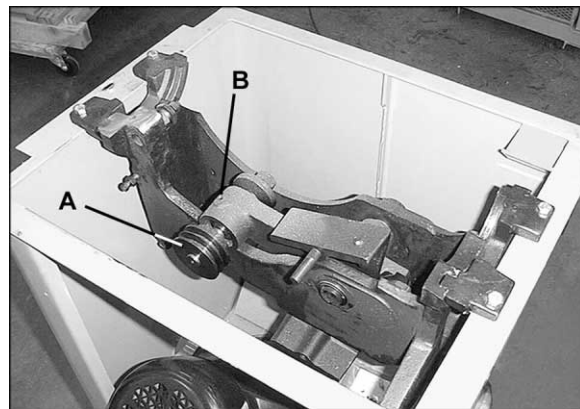

Figure 21
2. Loosen the two set screws in the arbor sheave (A, Figure 21) and remove the sheave and key.
3. Loosen the set screw (B, Figure 21) on the saw raising arm. The arbor assembly and bearings will slide out of the arm housing.